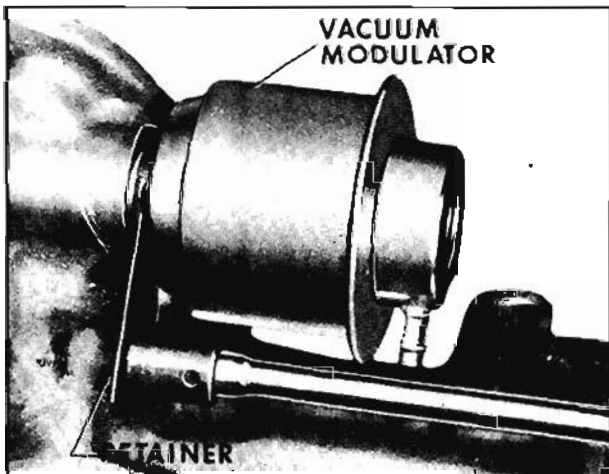

Fig. 6-479 Installing Vacuum Modulator Retainer
3. Install vacuum modulator retainer. Install retainer so tang points toward vacuum modulator. Torque bolts 8 to 12 ft. lbs. (Fig. 6-479)